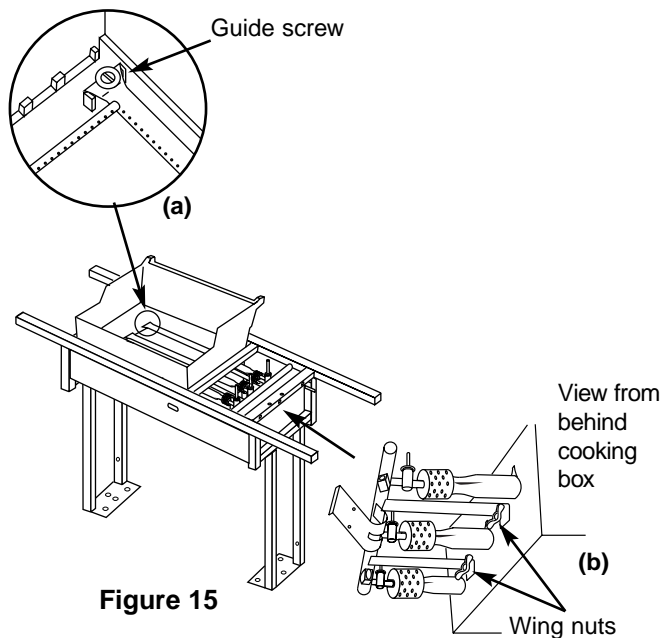

Figure 15
- Are the ends of the burners under the washers at the left rear and left front of the cooking box? The screws are only guides. Do not tighten. Figure 15 (a).
- Are the wing nuts under the burner assembly hand tight? Do not tighten with pliers. Figure 15 (b).